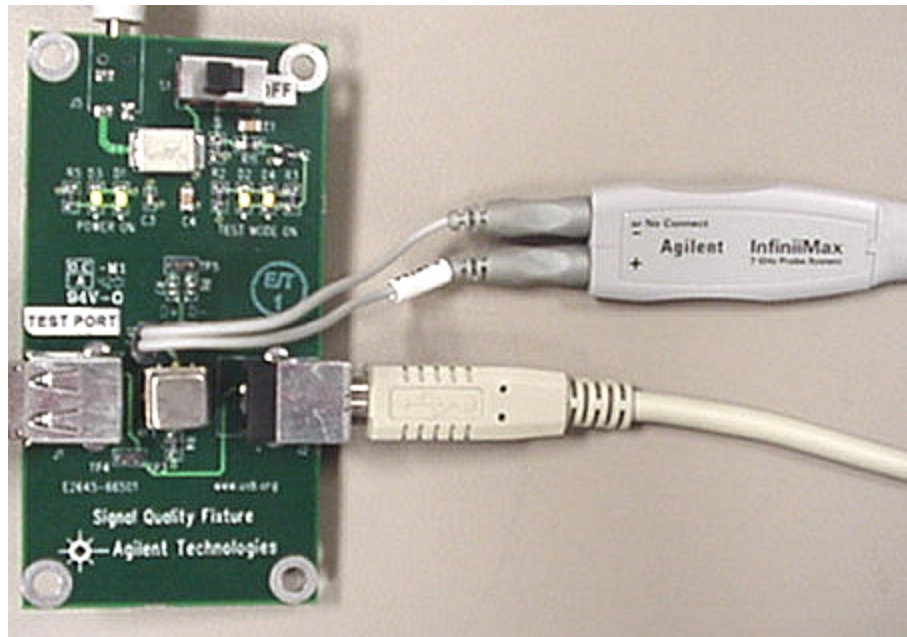

Figure 2. Differential Probe Connection
6. Attach the differential probe to TP2 of the test fixture as shown in Figure 2.